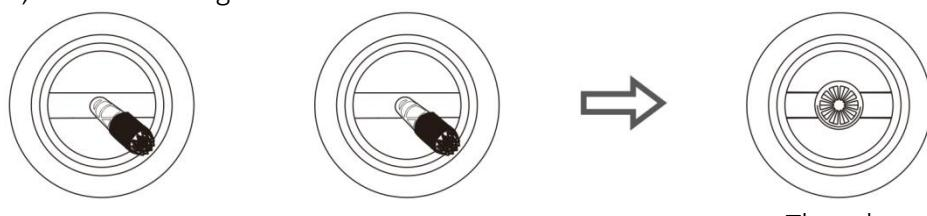

Figure 2-5 Unlock and Hover
**Step 5:** The drone remains at its current altitude and hovers after the throttle lever is centered, as shown in Figure 2-5.